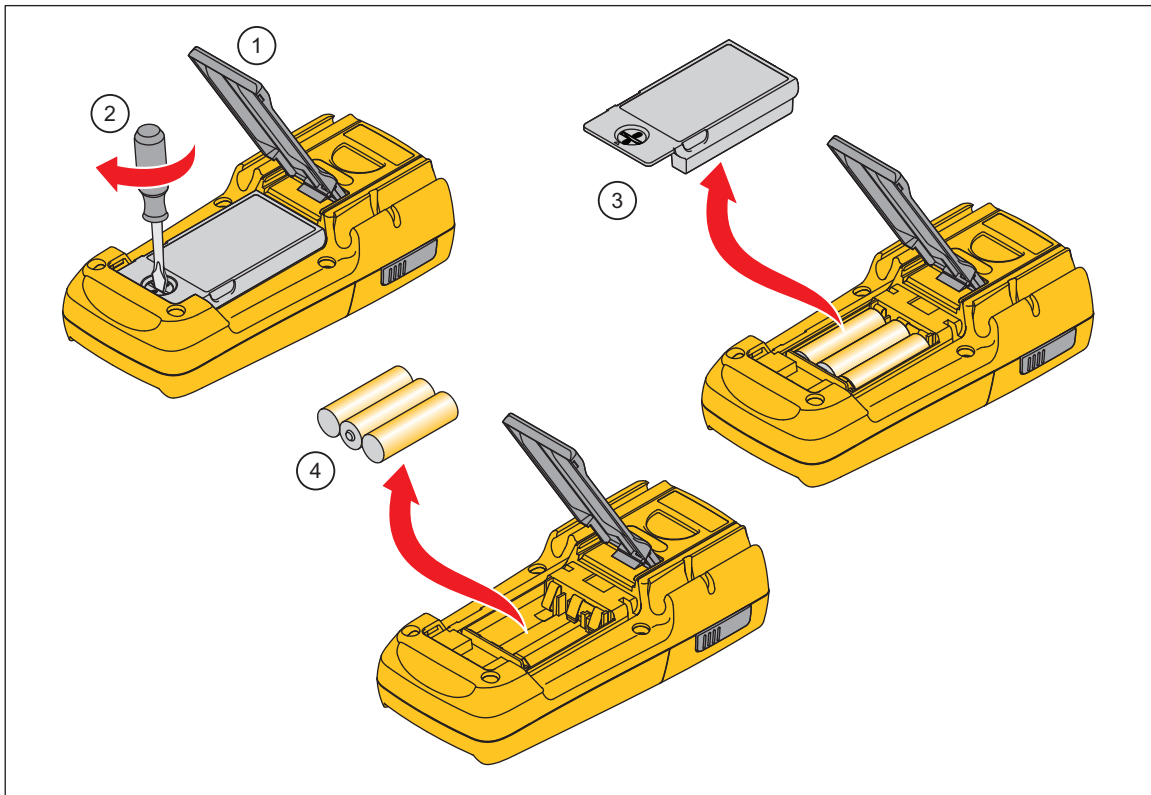

Figure 1. Meter-Base Battery Replacement
2. Lift the tilt stand up as shown in Figure 1.